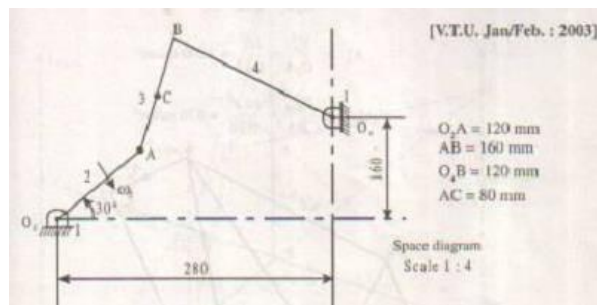

Fig. 2.3
- The crank O₂A of four bar mechanism shown in fig.2.3, is rotating clockwise at a constant speed of 100 rad/sec. Determine (a) The acceleration of the point C (b) The angular acceleration of the links 3&4.